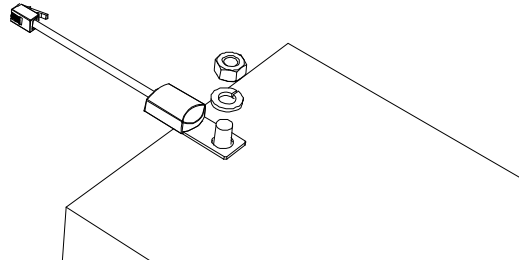

Figure 2-14 Attaching the BTS to a Battery Terminal
3. Connect the ring terminal on the BTS directly to the negative battery terminal or positive battery terminal, or use the adhesive backing on the sensor back to attach the sensor to any side of the battery to be monitored. See Figure 2-14.